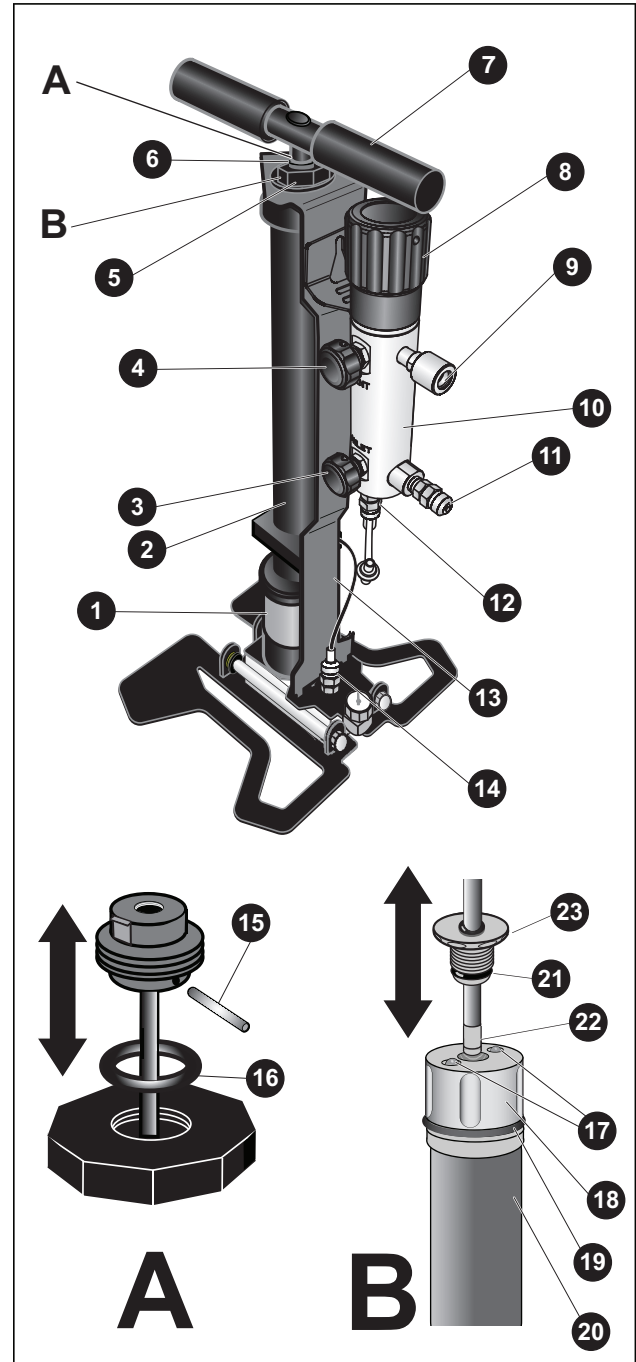

Figure 1. Features and Components
The features and components of the Product are shown in Figure 1 and Table 3.
3. Attach the calibration manifold to the pump bracket as shown in Figure 1. The calibration manifold is detachable due to the quick detent pins.
1. The 700HPPK can be operated with the calibration manifold attached as shown in Figure 1 or detached for easier operation.